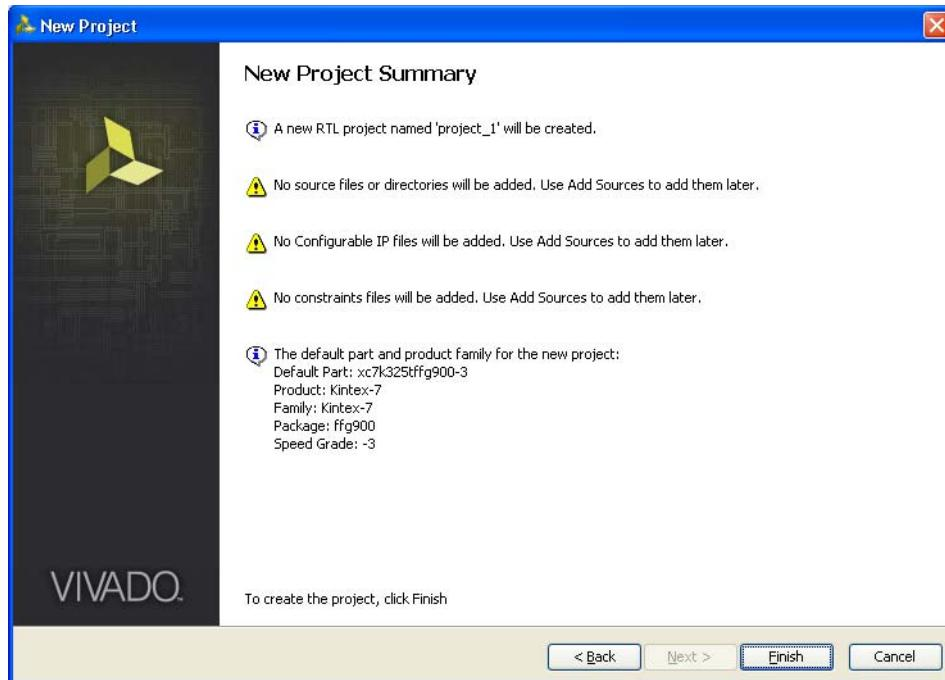

Figure 5-11: New Project Summary
9. Click **Next** to open the New Project Summary page (Figure 5-11). This includes the summary of selected project details.